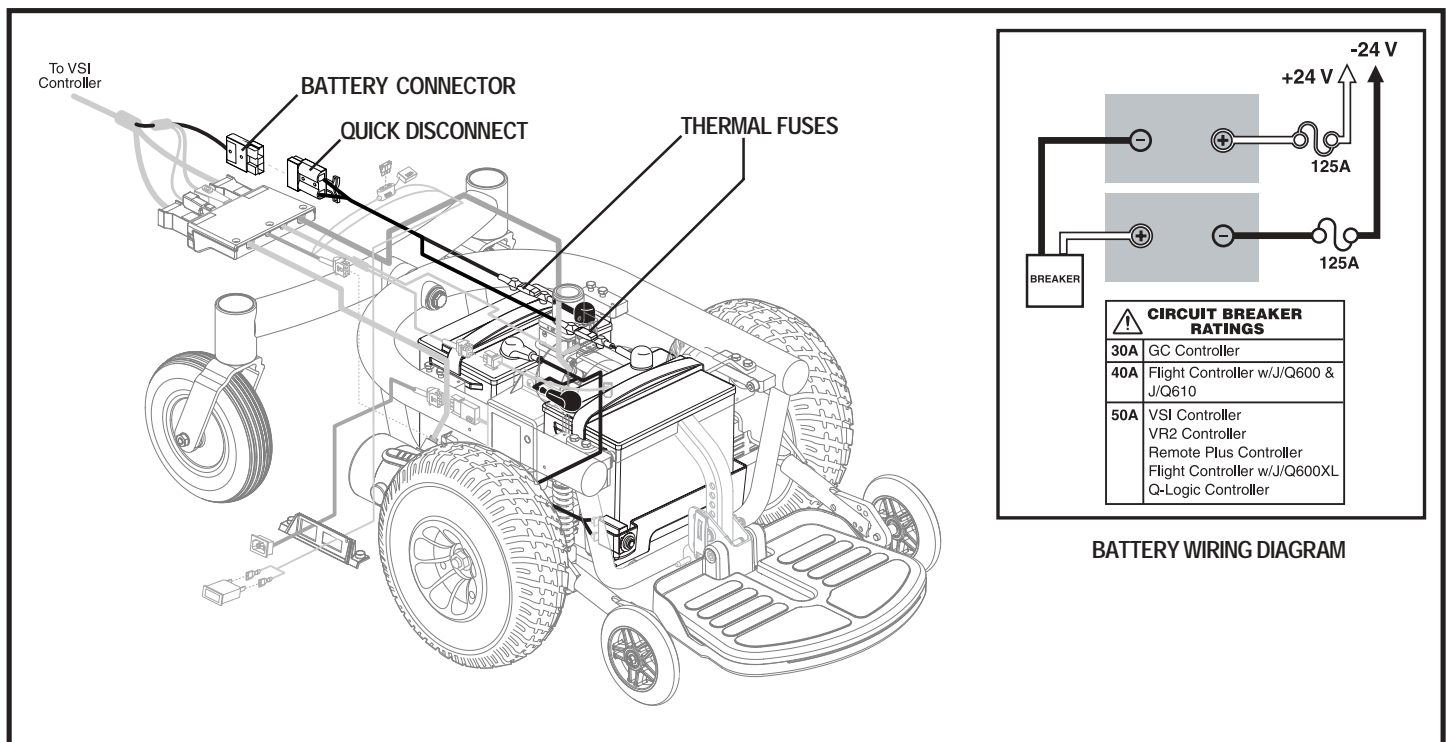

Figure 27. Quantum 1103 Ultra Battery Connections
A battery wiring diagram is printed on a decal located on the battery tray. See figure 27. See VI. “Batteries and Charging” for correct battery specifications.
5. Unplug the battery connector. See figure 27.
18. Connect the wiring harnesses to the front battery. See figure 27.
19. Connect the wiring harnesses to the rear battery. See figure 27.